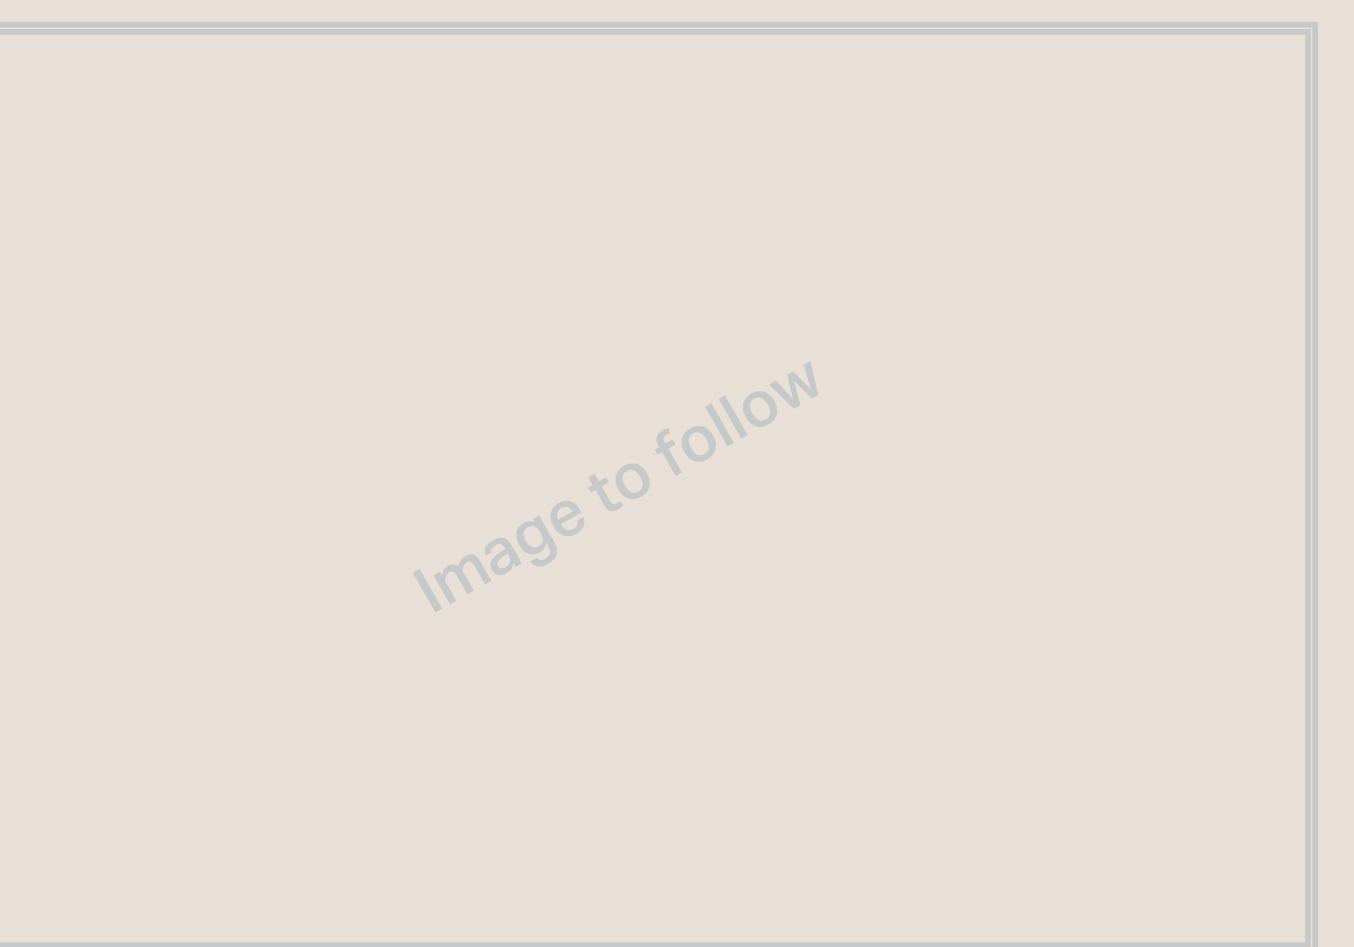

Fig. 1: Typical image reference for correct setting out
- Set up additional string lines to lay the paving to. These should be on the same fall and parallel to existing string lines, creating a set of tramlines no more than 1800mm apart (the maximum distance of a spirit level). This ensures paving can be laid square and to the correct fall. (SEE FIG. 1).
- Check the longitudinal level by the string line and double check between slabs using a spirit level to ensure a consistent fall. (SEE FIG. 1).
- Check the transverse fall (this may be level if only falling one way) by using a spirit level across the slabs and between slab and the next string line (tramline). (SEE FIG. 1).